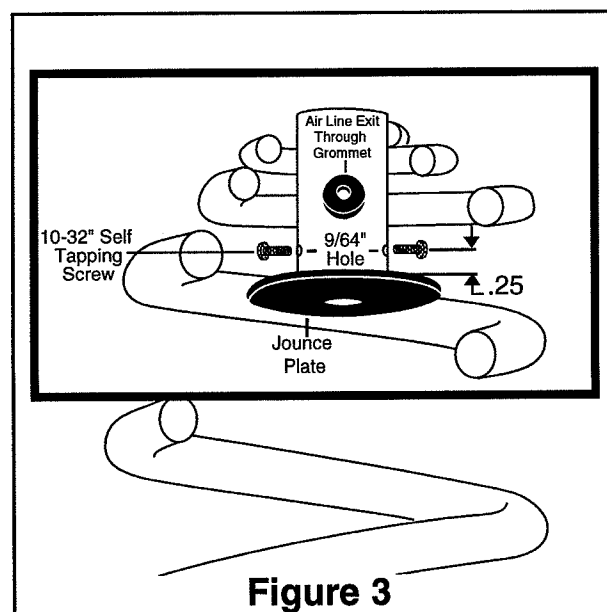

Figure 3
5. Insert Jounce Plate into jounce bumper support. Hold in place and measure up .25", center punch and drill a 9/64" hole through jounce bumper support and Jounce Plate. Repeat on the other side of the jounce bumper support so that there are 2 holes (Figure 3). Remove the Jounce Plate.
6. Re-mount coil springs into position previously marked. Bring lower suspension arm back up until springs just touch spring seat. Insert the Jounce Plate between coils, line up the previous holes that were drilled in jounce bumper support with the ones in the Jounce Plate. Install the two 10-33x3/8" self tapping screws provided into jounce bumper support (Figure 3).